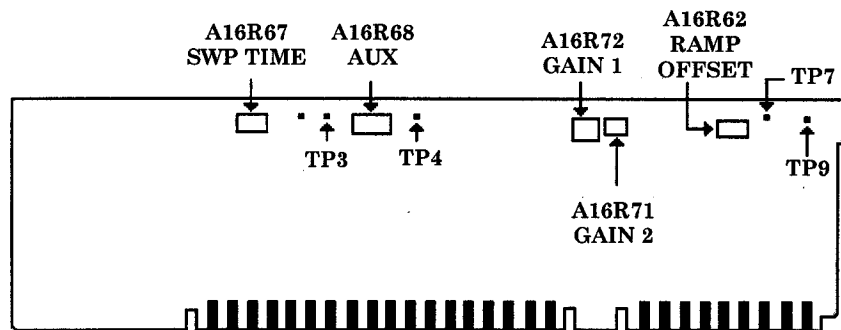
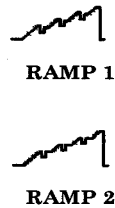
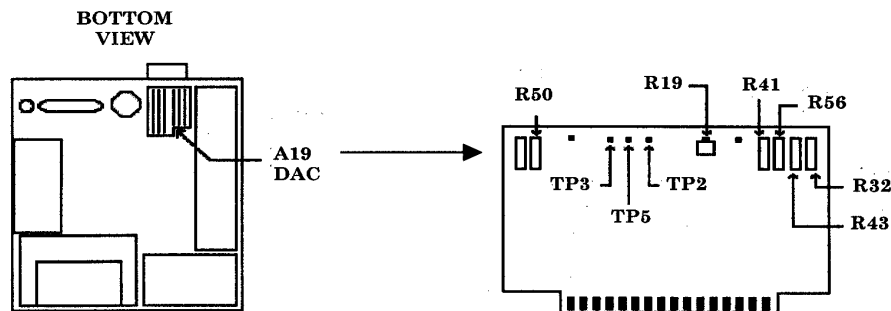
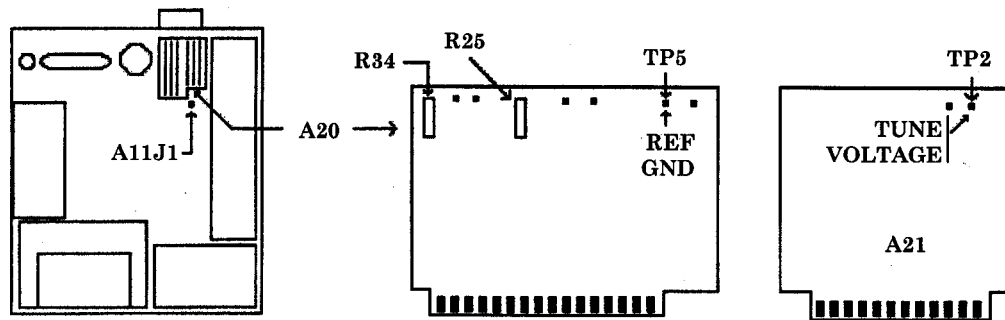

Figure 3. A16 board.
Figure 5. Ramps.
Figure 6. A19 board.
Figure 7. A20 board.
- (1) Disconnect TI **RF INPUT** from signal generator No. 3 **RF OUTPUT**.
- (2) Set TI **LINE** switch to **STANDBY**.
- (3) Position TI on its right side.
- (4) Remove TI bottom cover.
- (5) Remove cover over A12 through A16 pc boards.
- (6) Jumper A12TP2 to A12TP3 (lock indicator disable).
- (7) Set TI **LINE** switch to **ON**.
- (8) Press **0 - 2.5 GHz, SWEEP TIME, 500, mS**.
- (9) Connect oscilloscope **CH1** to TI A16TP3 (fig. 3).
- (10) Connect TI **SWEEP + TUNE OUT** (rear panel) to oscilloscope **CH2**.
- (13) Disconnect oscilloscope from A16TP3 (fig. 3).
(15) Adjust A16R68 AUX (fig. 3) to align the dc level of the rest time between each ramp with the upper dc level of each ramp. Refer to RAMP 2 (fig. 5).
- (16) Disconnect oscilloscope from A16TP4 (fig. 3).
- (17) Connect multimeter **HI** to A16TP9 and **LO** to A16TP7 (fig. 3).
- (18) Press TI **SWEEP SINGLE** key.
- (19) Adjust A16R62 RAMP OFFSET (fig. 3) for a multimeter indication as close to 0.000 V dc as possible.
- (20) Repeat steps (18) and (19) until requirement is met.
- (21) Press TI keys as listed in (a) through (g) below:
- (22) Connect multimeter **HI** to A19TP2 and **LO** to A19TP3 (fig. 6).
- (23) Press TI **RECALL, 1**.
- (24) Press TI **RECALL, 2**.
- (25) Repeat (23) and (24) above while monitoring multimeter.
- (26) The difference in multimeter indications for **RECALL, 1** and **RECALL, 2** should be  $< 1$  mV dc. Multimeter indications will be approximately  $-8$  V dc.
- (27) If necessary, adjust A19R19 (fig. 6) while alternating between **RECALL, 1** and **RECALL, 2** so that the difference in multimeter indications is  $< 1$  mV dc (R).
- (28) Press TI keys as listed in (a) and (b) below:
- (29) Press TI **RECALL, 1** keys.
- (30) Press TI **RECALL, 3** keys.
- (30) Repeat (29) and (30) above while monitoring multimeter.
- (31) The difference in multimeter indications for **RECALL, 1** and **RECALL, 3** should be  $< 3$  mV dc.
- (32) If necessary, adjust A19R41 (fig. 6) while alternating between **RECALL, 1** and **RECALL, 3** so that the difference in multimeter indications is  $< 3$  mV dc (R).